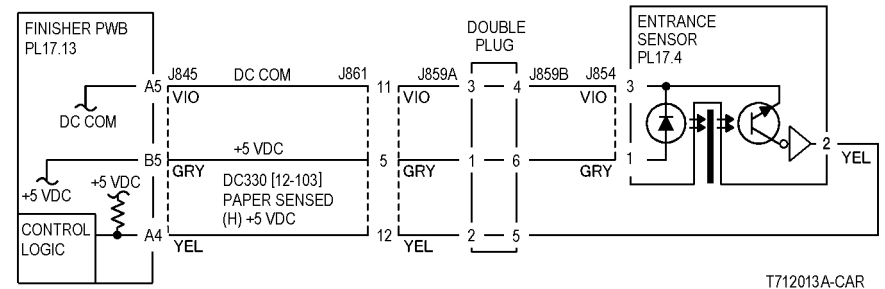
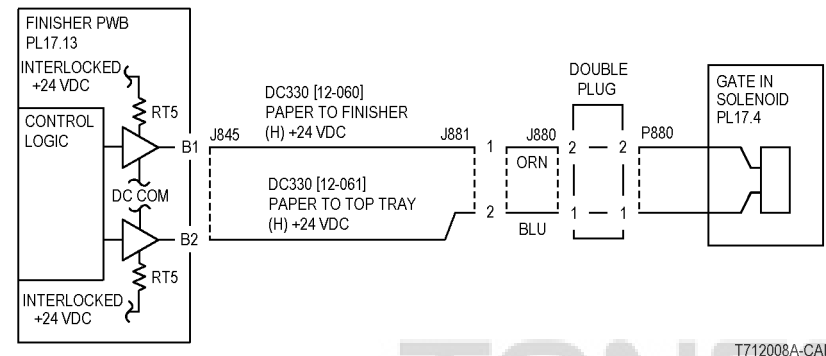
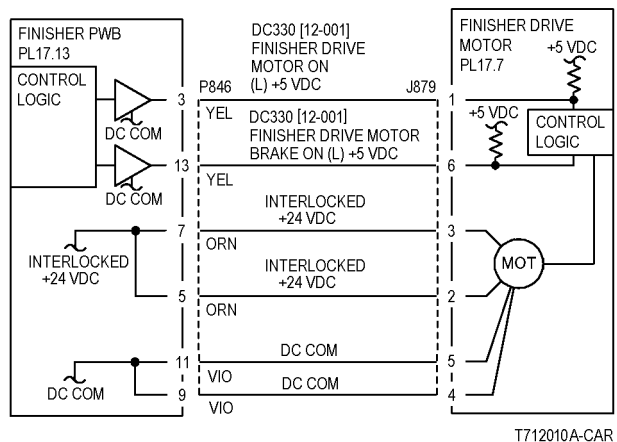

Figure 2 12-100 RAP Circuit Diagram - H Transport Entrance Sensor
Figure 3 12-100 RAP Circuit Diagram - Gate In Solenoid
Figure 4 12-100 RAP Circuit Diagram - Finisher Drive Motor
Press **Stop**. Check the circuit of the H Transport Entrance Sensor (Figure 2). Refer to the OF 99-2 RAP for troubleshooting procedure.
Press **Stop**. Check the circuit of the Gate In Solenoid. (Figure 3) Refer to the OF 99-4 RAP for troubleshooting procedure.
- Ensure that the connectors shown in the circuit diagrams (Figure 2, Figure 3, Figure 4) are securely connected and that the wires are not damaged.